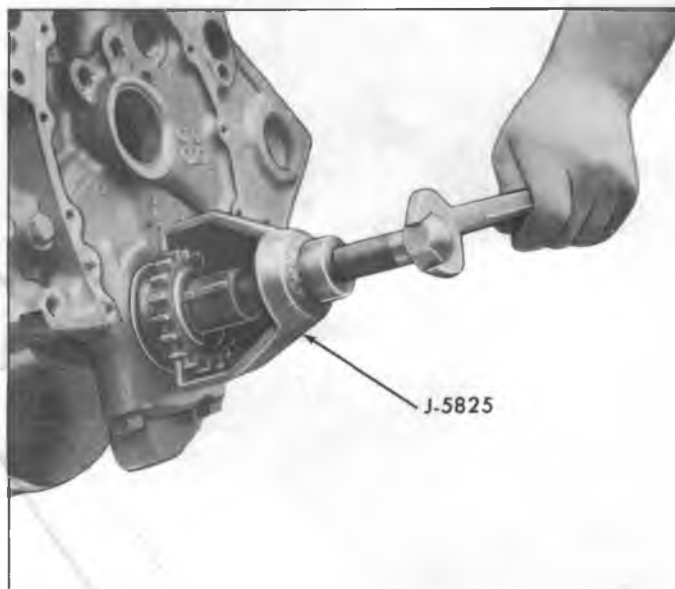

Fig. 16V—Removing Crankshaft Sprocket
5. If crankshaft sprocket is to be replaced, remove sprocket using Tool J-5825 (fig. 16V). Install new sprocket using a 7/16"-20 x 5" bolt and nut (fig. 17V).